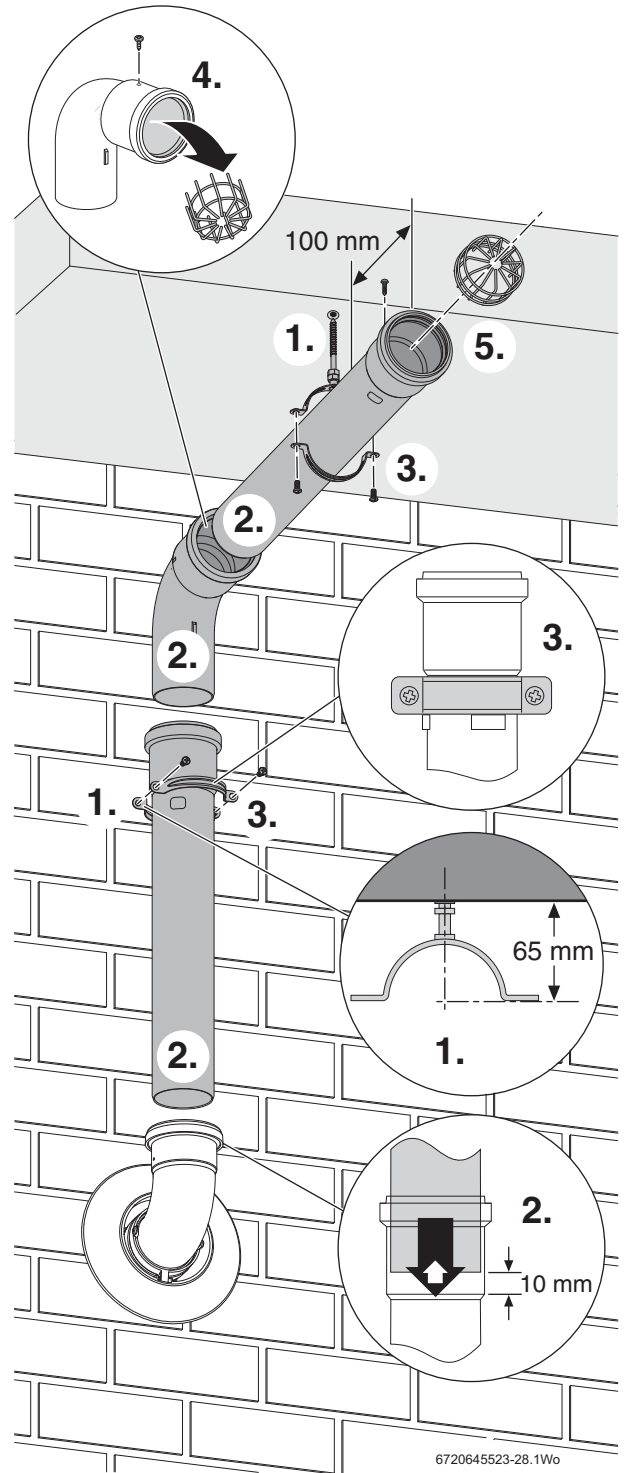

Fig. 55 Under balcony installation
1. Refer to figure 55 and mark the position for the wall clamp that coincides with the extension tube just below the top fitting. Drill a suitable hole and fit the wall plug. Screw the clamp into the wall plug as shown.